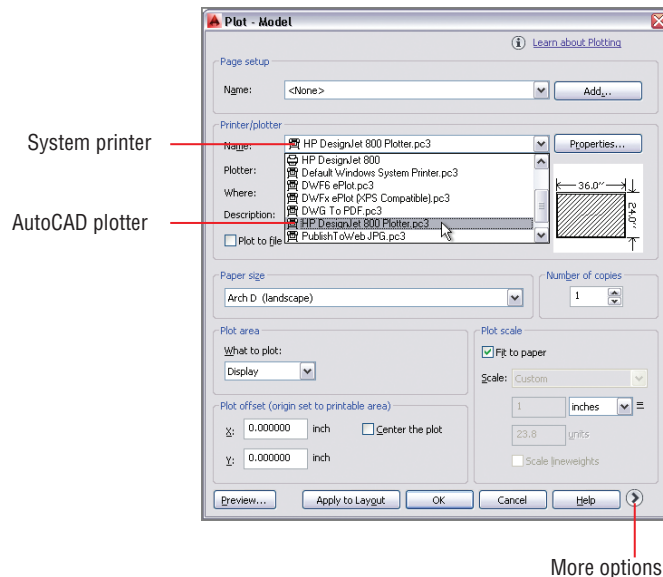

FIGURE 14.21 Selecting a plotter driver in the Plot dialog box
2. Click the Plot tool in the Quick Access toolbar. Open the Name drop-down menu in the Plot – Model dialog box (see Figure 14.21). Observe that both a system printer and an AutoCAD plotter appear for the HP DesignJet 800 device. Click Cancel.